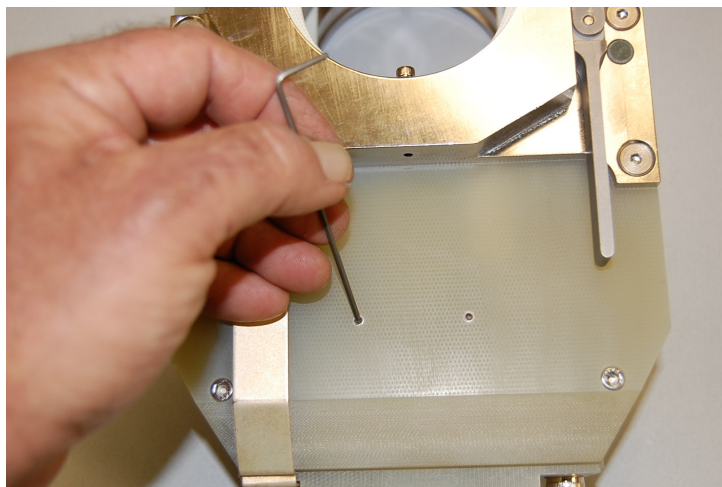

Fig. 15
7.6 Two spare electrode set screws may be found in the weld head cover. See Fig. 15.